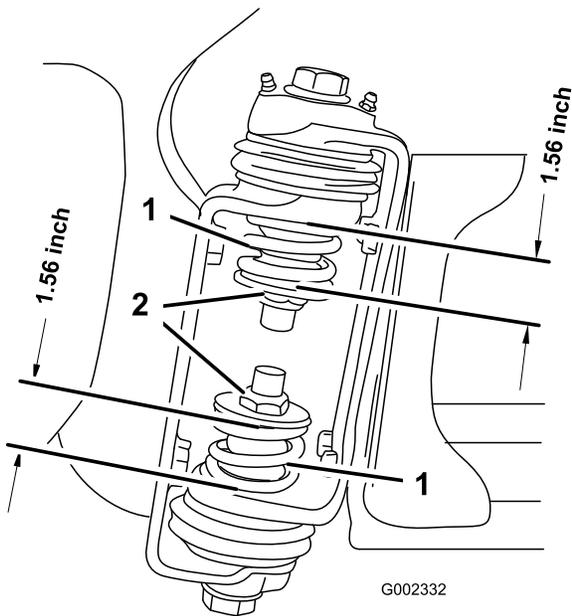

Figure 4
3. At the boom hinge, measure the compression of the upper and lower springs while the booms are in their extended position (Figure 4).